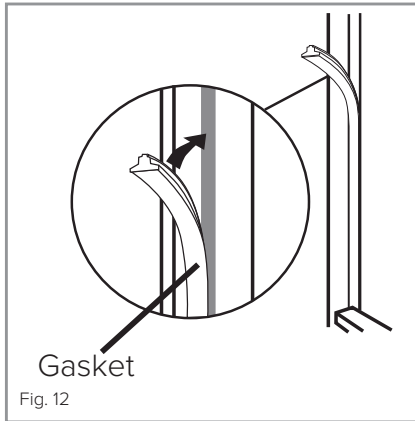

Fig. 12
- Fill the gap on the non-hinged side with the gasket/seal strip provided, as shown in Fig. 12 (page 18).